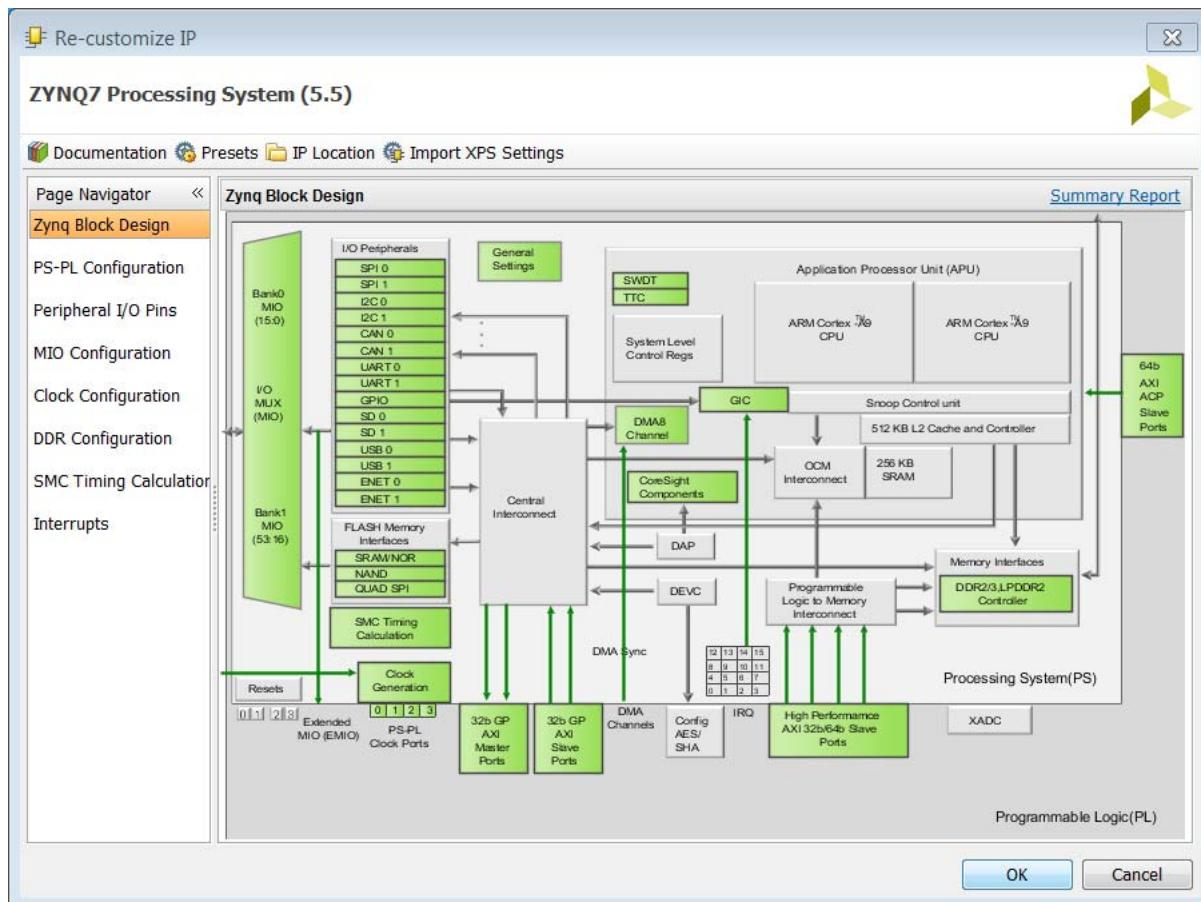

Figure 2-6: ZYNQ7 Processing System Configuration Dialog Box
3. Double-click the processing system graphic to invoke the **Re-customize IP** process, which displays the Re-customize IP for the ZYNQ7 Processing System dialog box as shown in Figure 2-6.
Review the contents of the block design. The green colored blocks in the ZYNQ7 Processing System are configurable items. You can click a green block to open the coordinating configuration options. Alternatively, you can select the options from the Page Navigator on the left, as shown in Figure 2-6, page 11.